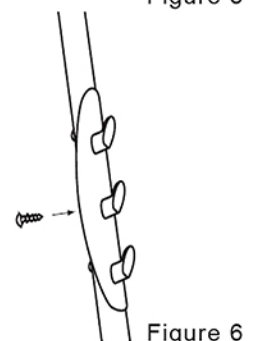

Figure 6
6 Attach the provided 3 hook **Towel Holder (H)** on the preferred side of your Lifter by simply snapping it into place and inserting the middle self-tapping screw (See Figure 6).